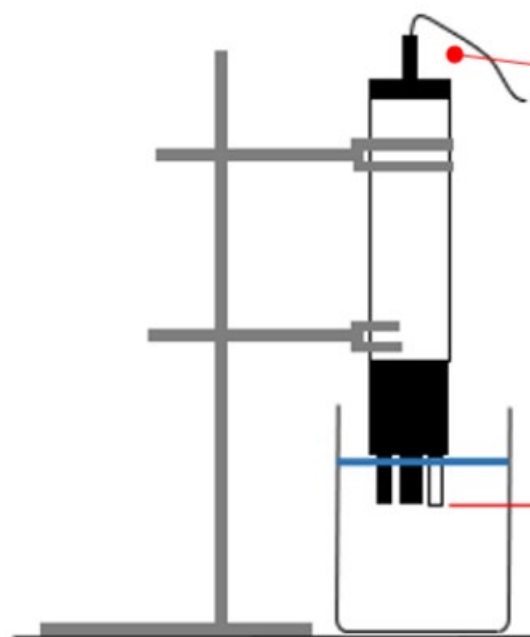

Figure 47. Example of spike test set-up in the lab. A vertical clamp is recommended for ease of measurement.
4. Remove sensor storage cup and introduce Proteus into the sample beaker, press “Wipe One Cycle Now” to initiate cleaning mechanism to remove any bubbles which may be on the sensor windows (bubbles will affect the measurement if not removed). Ensure all sensors are fully submerged – marking depth will ensure all samples are treated similarly (Figure 47). It is Perform wipe cycle for each stage prior to making readings.